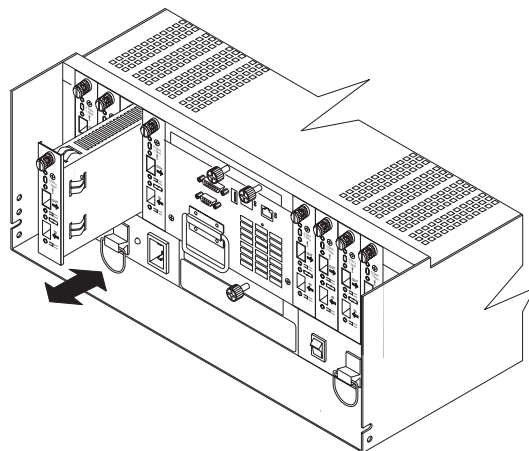

Figure 50. Removing and installing a mini hub
The mini hubs are located on the back of the FAStT700 Storage Server (see Figure 50 on page 57). A mini hub is a single, removable unit that provides the Fibre Channel interface between a FAStT700 Storage Server and hosts or drives. The back of the FAStT700 Storage Server can accommodate eight mini hubs: up to four host-side and up to four drive-side mini hubs. Each mini hub has two ports. An SFP module is installed in a mini-hub port; then, a fiber-optic interface cable is connected into the SFP module. For more information, see “Fibre Channel connections” on page 2 and “Small Form-Factor Pluggable (SFP) Modules” on page 52.
4. Loosen the captive screw on the mini hub; then, grasp the screw and remove the mini hub from the chassis, as shown in Figure 50.